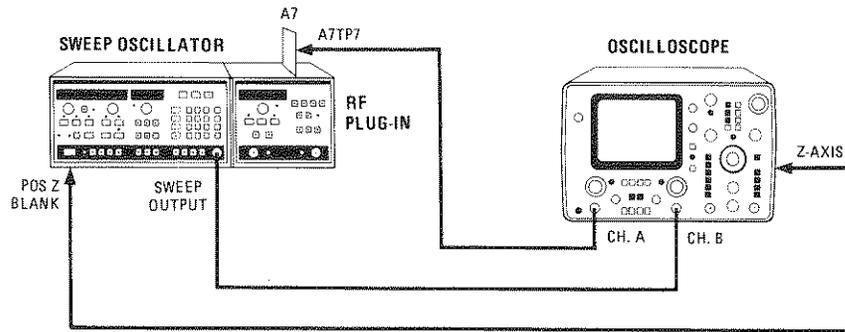

Figure 5-2. Oscillator Bias Adjustment Test Setup
1. Connect equipment as shown in Figure 5-2 and 5-3. Place A7 Marker board on an extender board, connect oscilloscope probe to A7TP7 oscillator bias, and select A vs. B sweep mode.